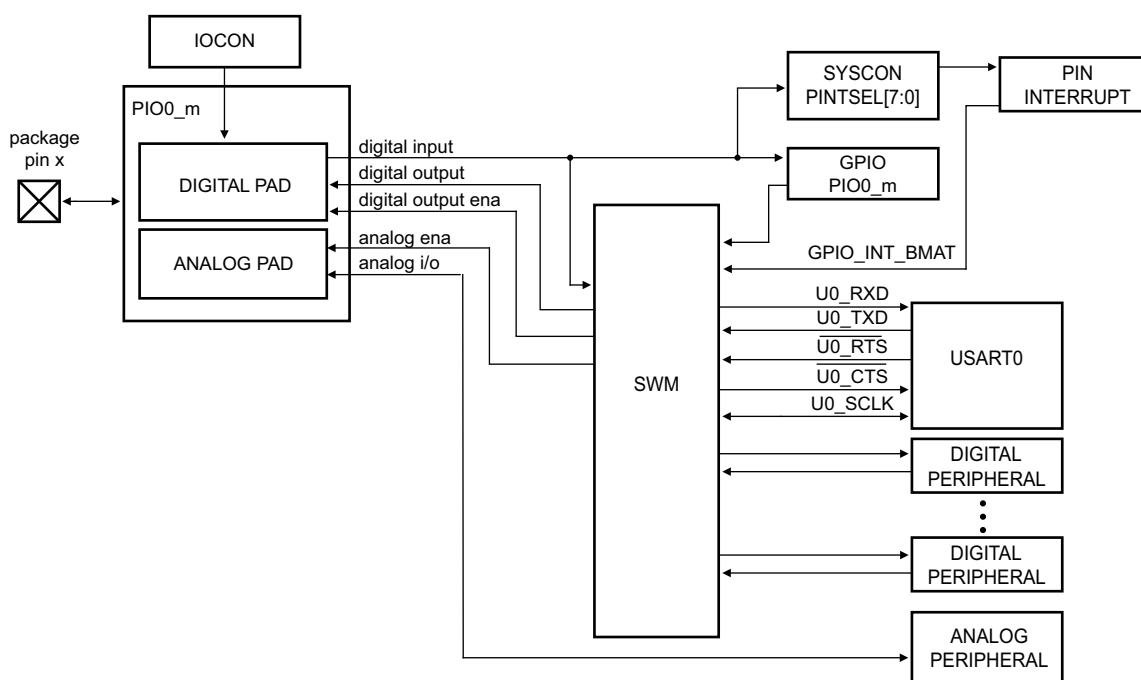

Fig 12. Functional diagram of the switch matrix
**Remark:** From all movable and fixed-pin functions, you can assign multiple functions to the same pin but no more than one output or bidirectional function (see Figure 12). Use the following guidelines when assigning pins: